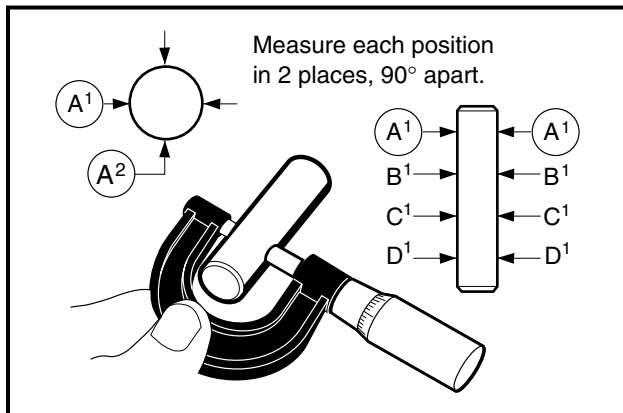

Figure 3-48 Measure O.D. of Piston Pin
1. Use a micrometer to measure the outside diameter of the piston pin at several points along its length (**Figure 3-48, Page 3-25**).